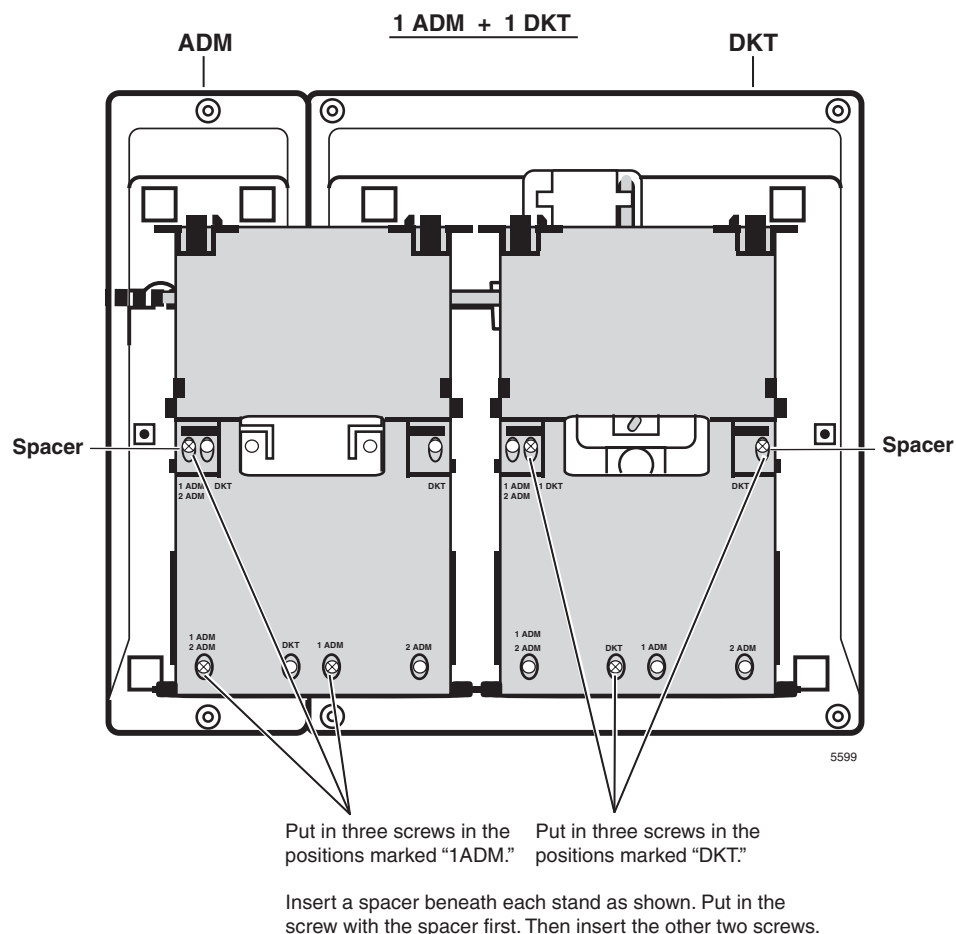

Figure 7-21 Attach Tilt Stands to DKT and One ADM
5. Attach Tilt Stand to bottom of DKT with screws (see Figure 7-21).